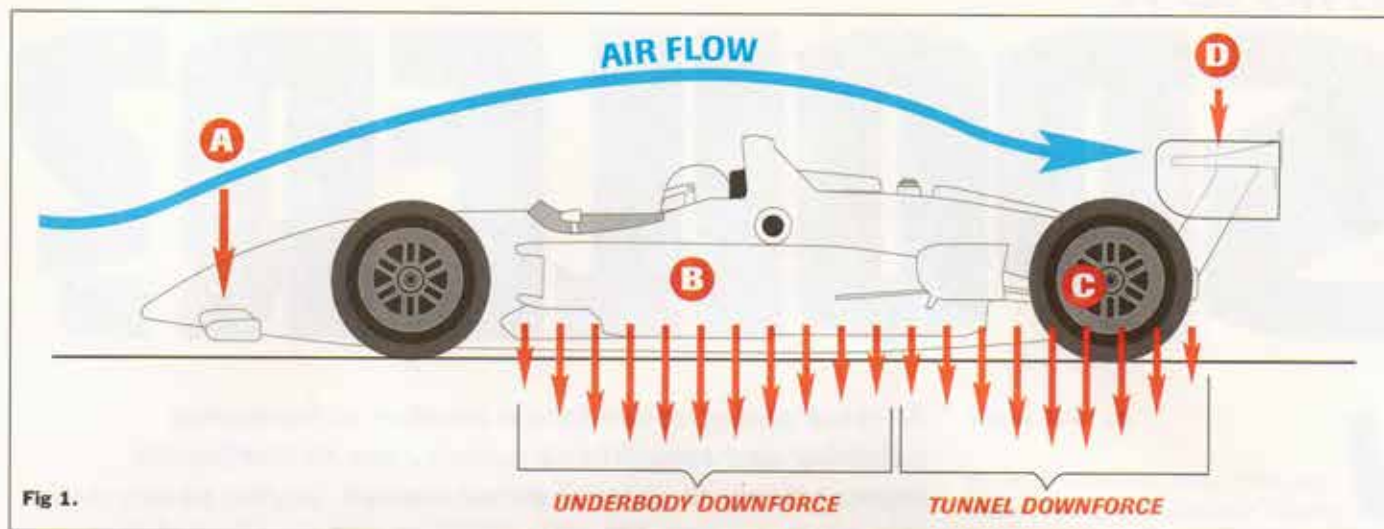

Fig 1.
**Fig 1** shows that the nett downforce produced by a ChampCar – indeed any modern ground-effects car – is the sum of forces from the front wing (A), the underwing (B), and the rear wing (D). Constant improvements in tyre technology (C) also contribute to rapidly increasing cornering and straightaway speeds.